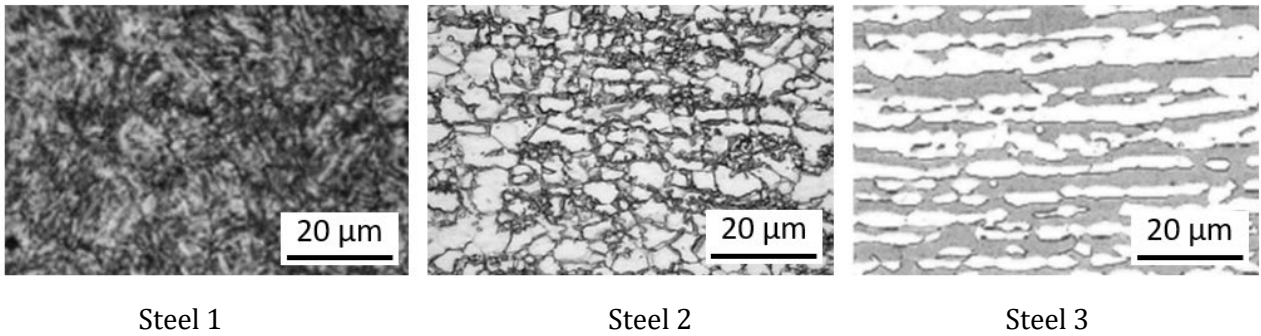

Figure 1. Microstructure of unknown steels
- Associate these compositions to the microstructures shown in Figure 1 (1.5P)
- Name the sub-classification of the steels shown in Figure 1 from the following options: DP, Duplex, CP, TRIP, TWIP, and Q&P steels (1.5P).